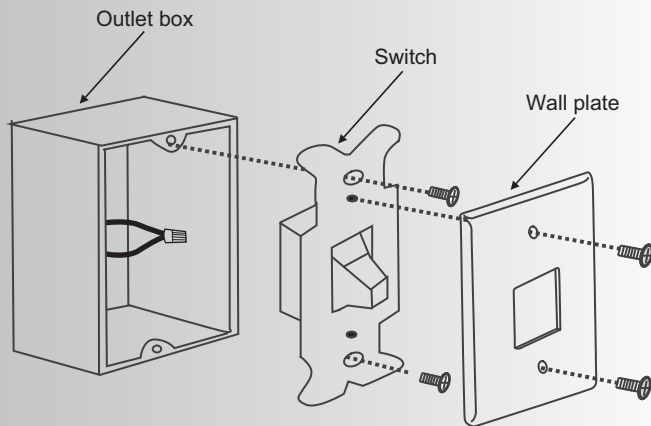

Fig. 26
Step 1. Remove the existing wall plate and the old switch from the wall outlet box. Wire nut the BLACK leads (hot) together and push back inside the outlet box. (Fig. 26)